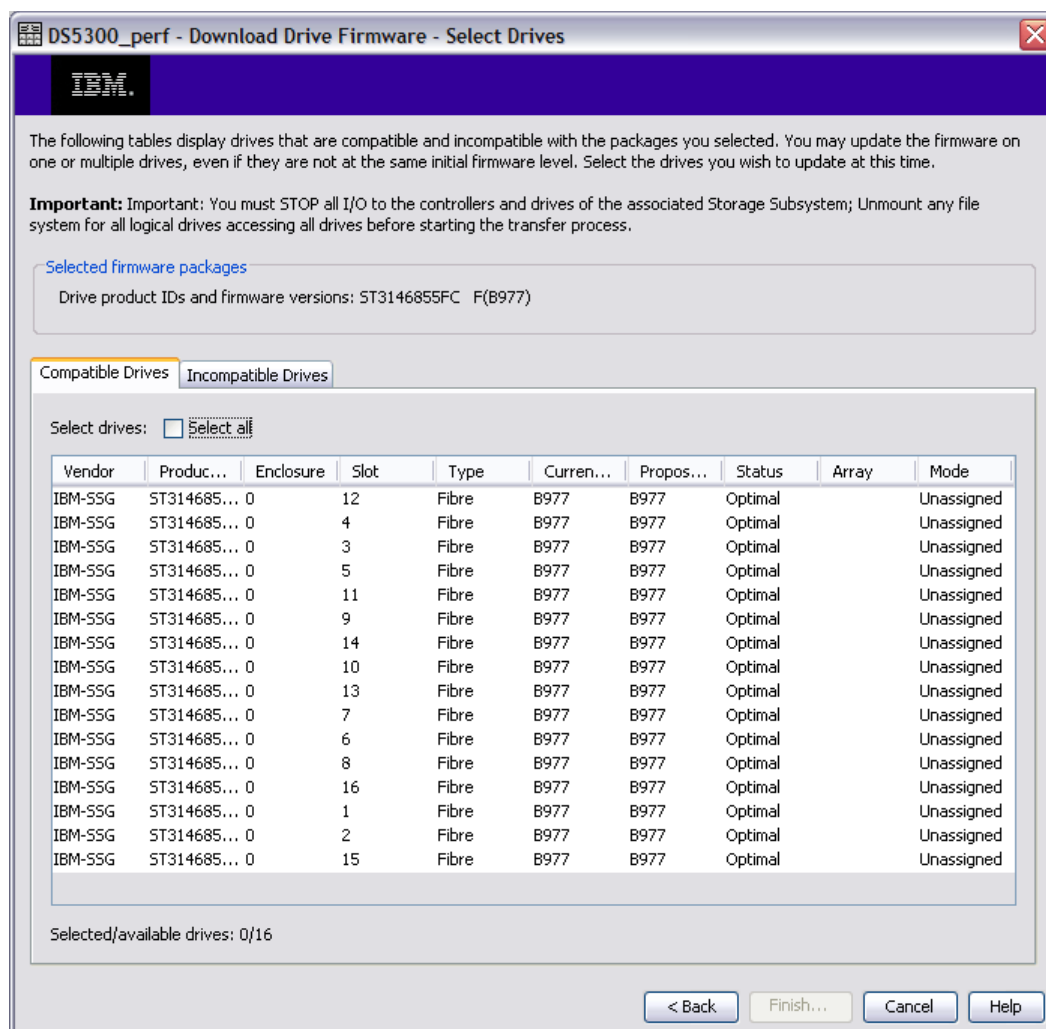

Figure 7-27 Selecting drives to upgrade
6. If you click **Next**, a new window opens showing all the drives with the current and proposed firmware. We had one type of drive that did not require an upgrade, because the firmware was on the same level, as shown in Figure 7-27. Select the drives you want to upgrade and click **Finish**.